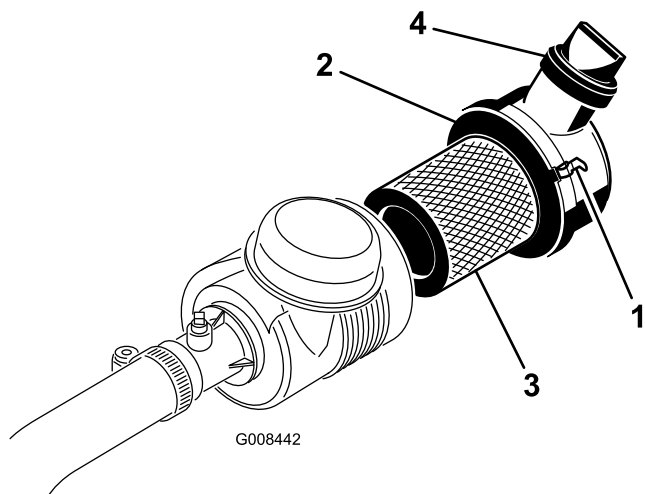

Figure 44
1. Release the latches securing the air cleaner cover to the air cleaner body (Figure 44).
6. Reinstall the cover and secure the latches (Figure 44).